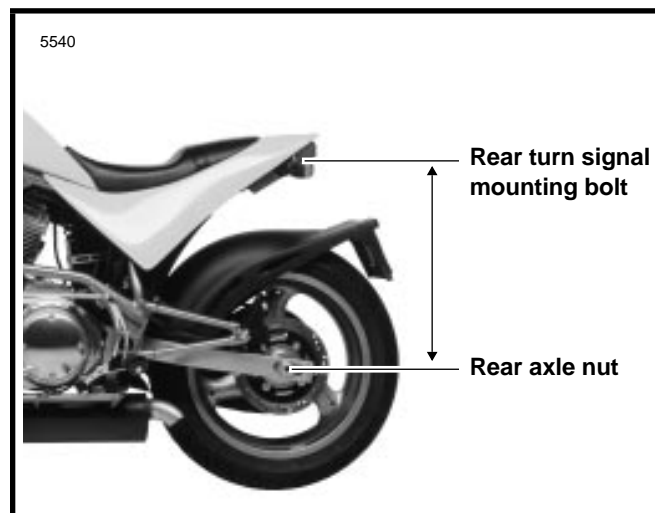

Figure 1-27. Checking Rear Preload
4. See Figure 1-27. Measure the distance from the center of the rear axle nut to the rear turn signal mounting bolt without rider/passenger/cargo/accessories on the motorcycle.